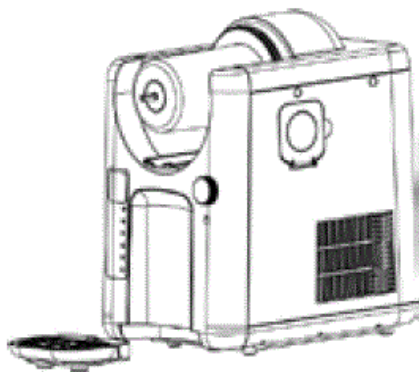

Fig. 1
8. Slide in the drip tray at the bottom of the appliance (Fig. 1).